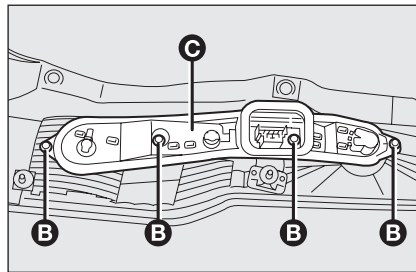

fig. 33
- slacken the four screws **B**-fig. 33 from their seats;